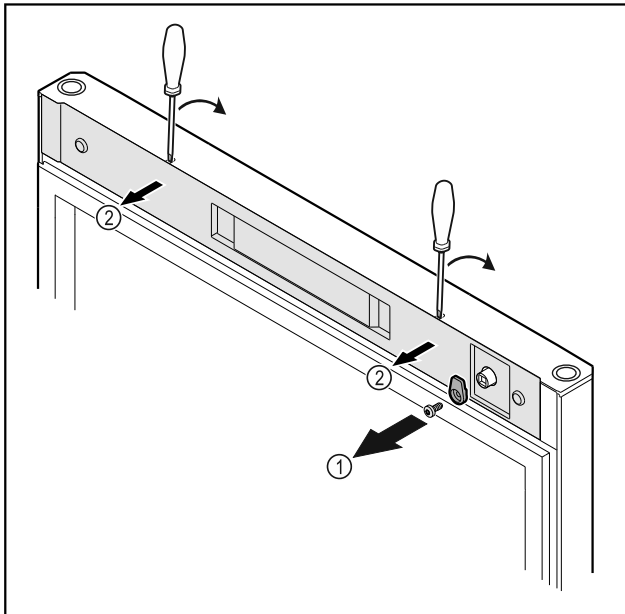

Fig. 21
- ▶ Unscrew the door latch Fig. 21 (1).
- ▶ Unlatch the cover Fig. 21 (2) with a small screwdriver and remove it.